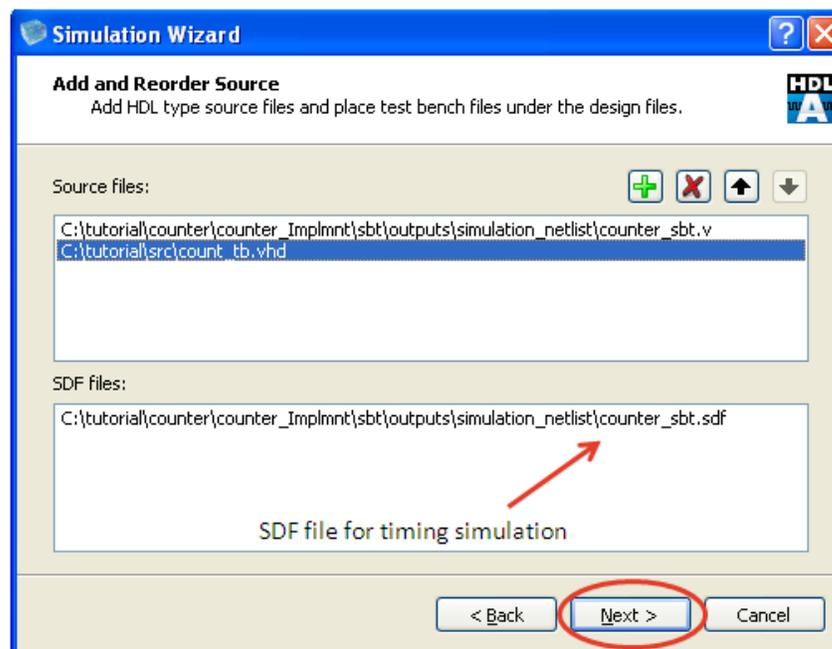

Figure 10-20 : Add Test bench File.
4. The simulation wizard automatically adds the post routed netlist "*counter_sbt.v*" in "Source files" panel and the verilog delay format file "*counter_sbt.sdf*" under "SDF files" panel as shown in Figure 10-20. Click on "+" icon to add the "*count_tb.vhd*" test bench to the "Source files" panel. Click on "Next".